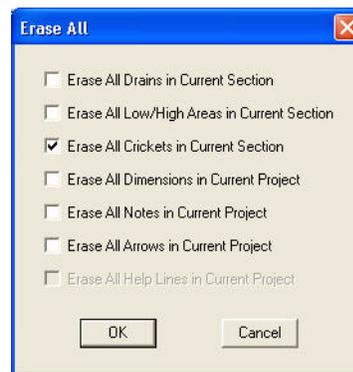

Figure 3-16 The Erase All dialogue box
3. Select the Erase All Crickets in Current Section check box, as shown in Figure 3-16